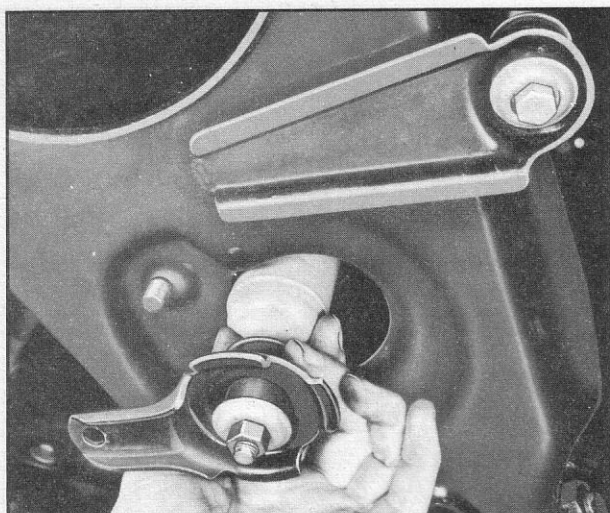

Fig. 13—Removing Shock Absorber
2. Remove nut and lockwasher from special bolt, retaining shock absorber lower mounting bracket to lower control arm, and pull shock absorber assembly and mounting bracket out bottom of spring housing (fig. 13).